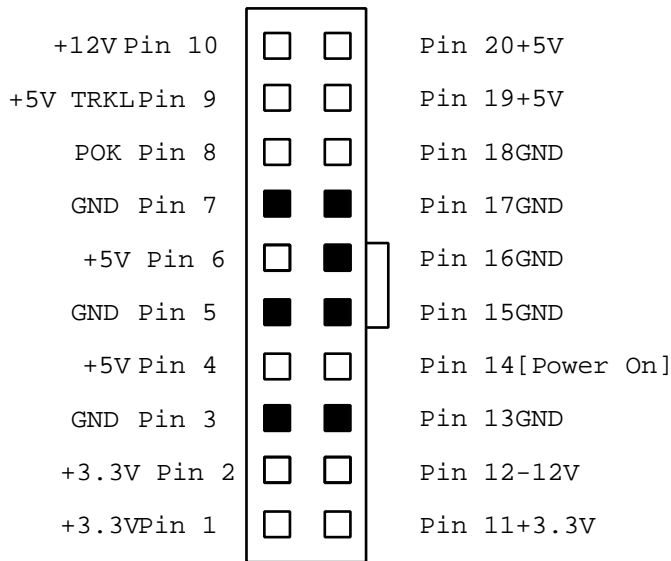

Figure 1. Power Supply 20-Pin Connector
2. Power Mac G4 (AGP or PCI) (see Figure 1):